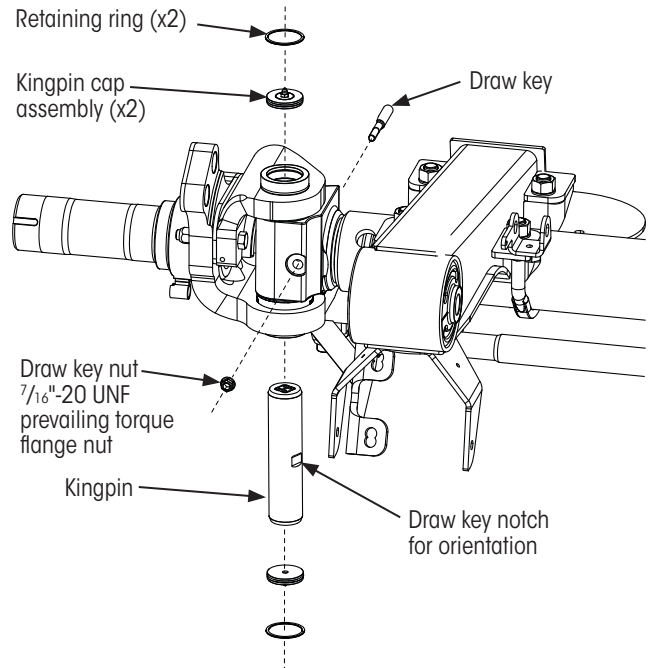

Figure 21: Kingpin exploded view
1. **Remove** top and bottom retaining rings (Figure 21) securing the kingpin caps in position.
8. Using wrench or socket ¹, **remove** the draw key nut (Figure 21).
2. **Thoroughly clean** the hole in the axle end for the kingpin (Figure 21 on page 15).